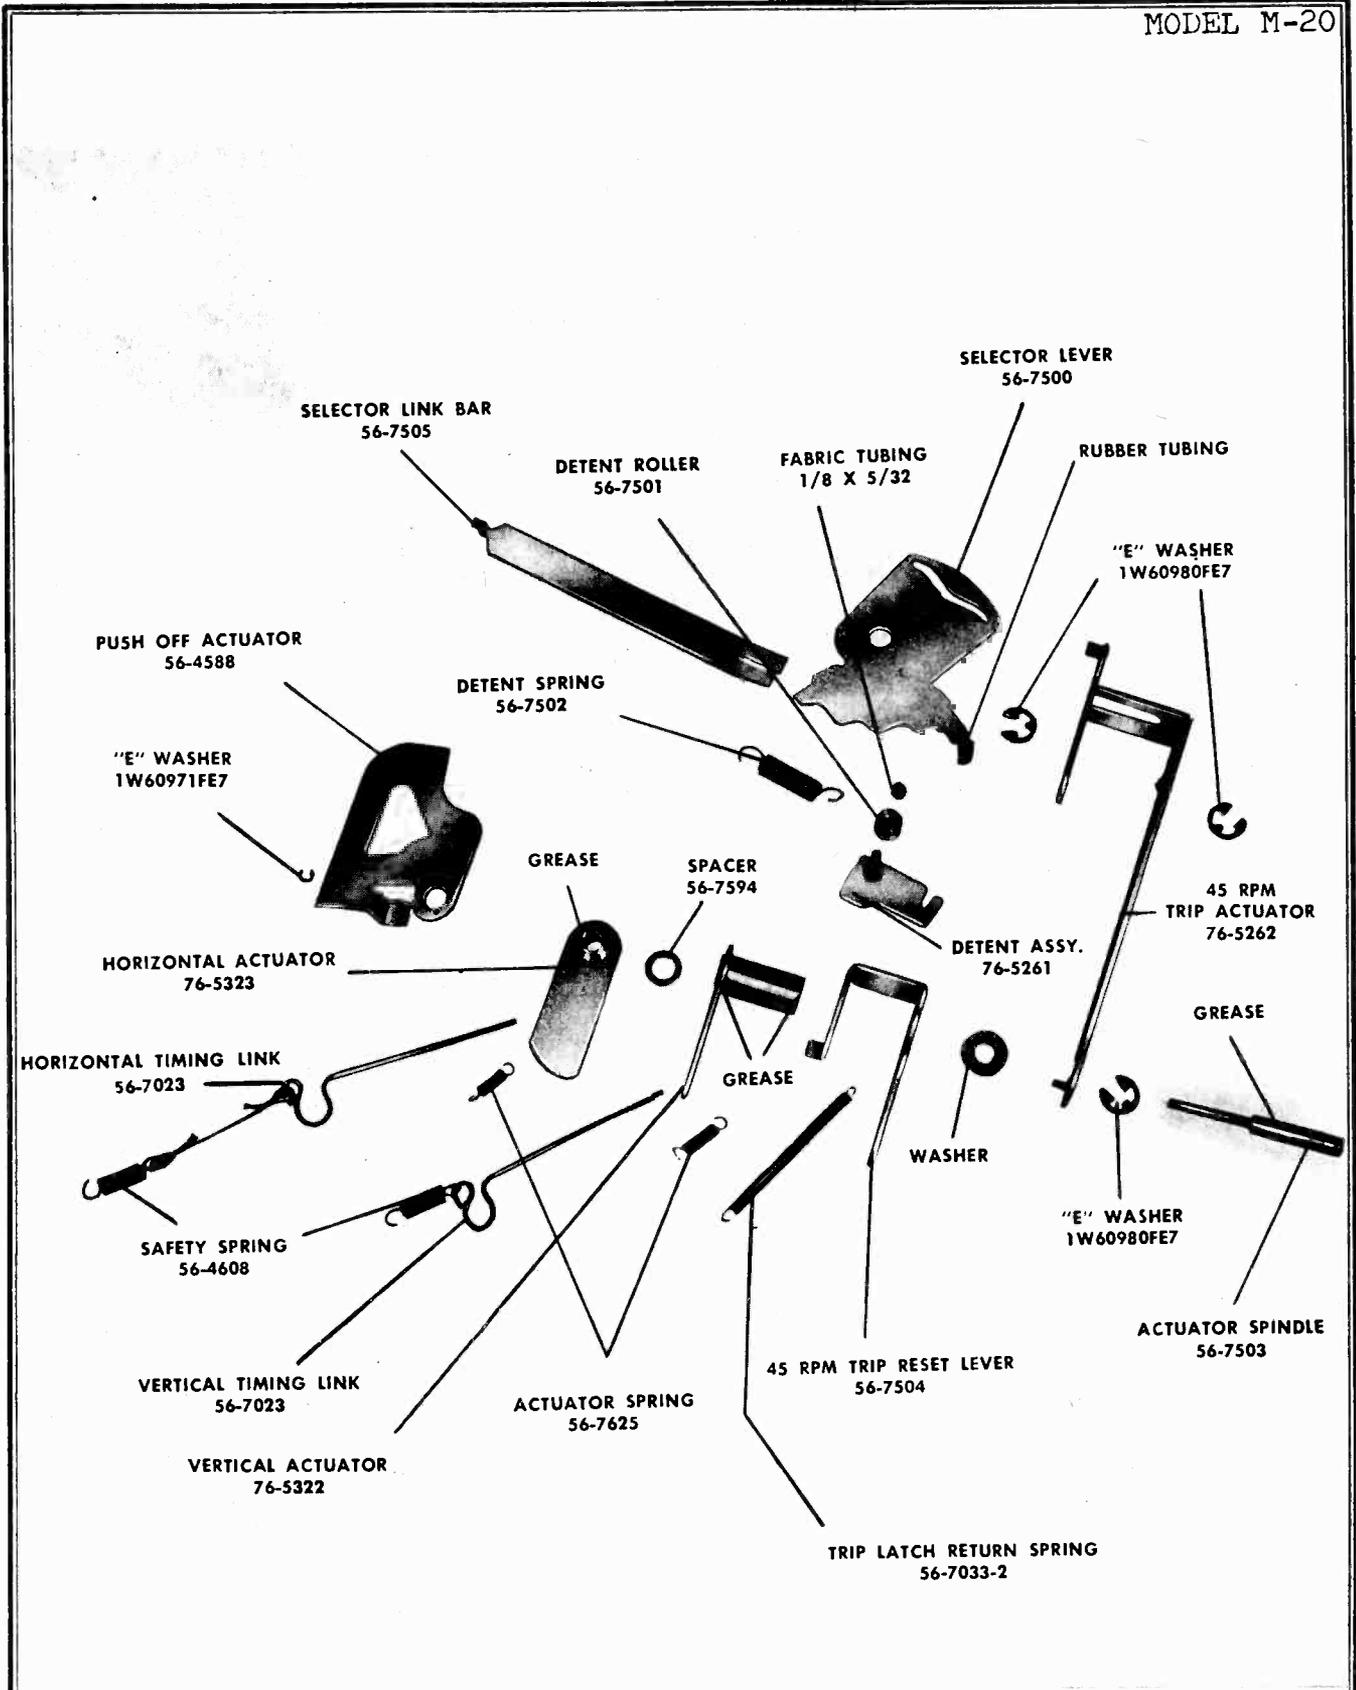

FIGURE 17. ACTUATOR AND SPEED-CHANGE ASSEMBLIES
- Disengage link from control button. Figure 17 shows speed-change assembly.
- Remove spacer, and swing horizontal actuator away from cam gear; slip off from actuator stud, and disengage link. Figure 17 shows actuator assembly.
- Rotate actuator until its ears clear cutouts in base plate. Lift off. See figure 17.